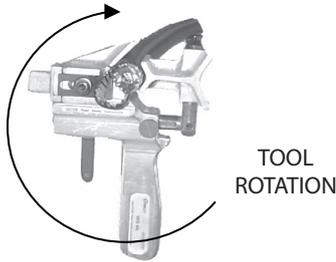

Fig. 6
Step 3. (Fig. 6) Begin jacket stripping by applying a slight downward pressure while rotating the tool around the cable in a clockwise direction. *If the blade slips out of position during jacket removal, do not attempt to restart stripping process. Cut the cable using a curved cable cutter or hacksaw and start over.*